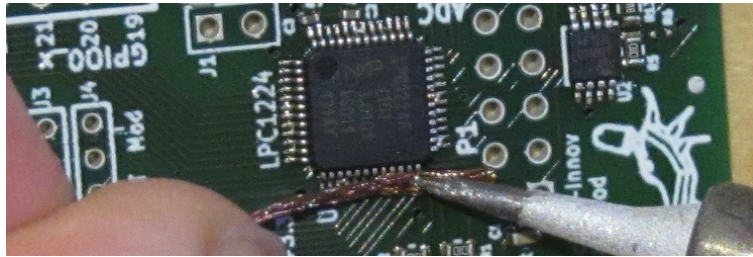

Fig 23 – Using desoldering wire
- For the other, use the desoldering wire (you've got some in the soldering kit, it's the copper braid). Put the end of the desoldering wire on top of the solder bump (do not hold it too close to the end, it will become hot too) and put the iron (cleaned) on top of it and push a little bit so the braid is well in contact with the bump of solder to be removed. Refer to Figure 23